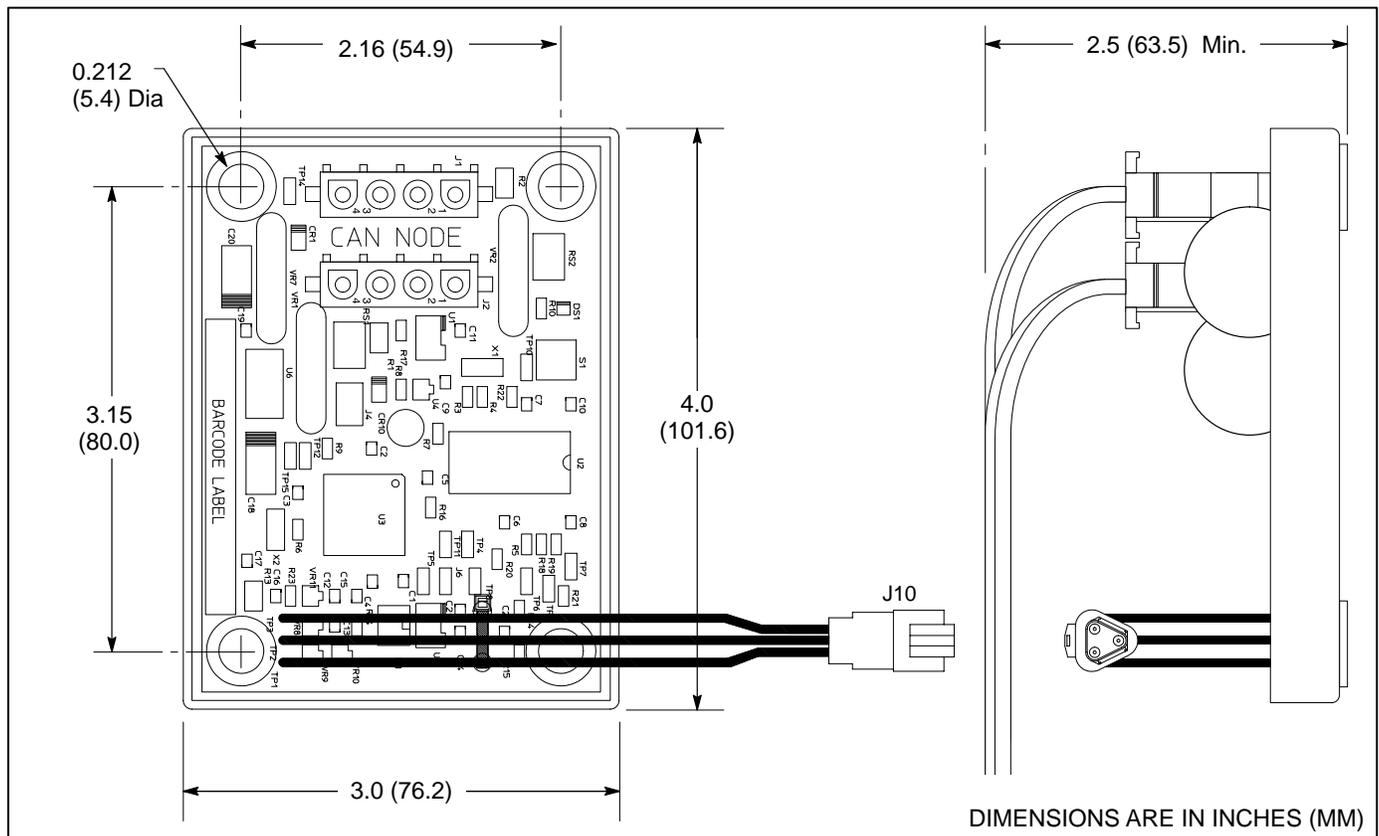

FIGURE 10-1. ENGINE INTERFACE NODE
1. Choose a location that provides adequate clearance for the communications cable (see Figure 10-1).
2. Drill mounting holes as shown in Figure 10-1. Make sure you do not drill into other electrical components.